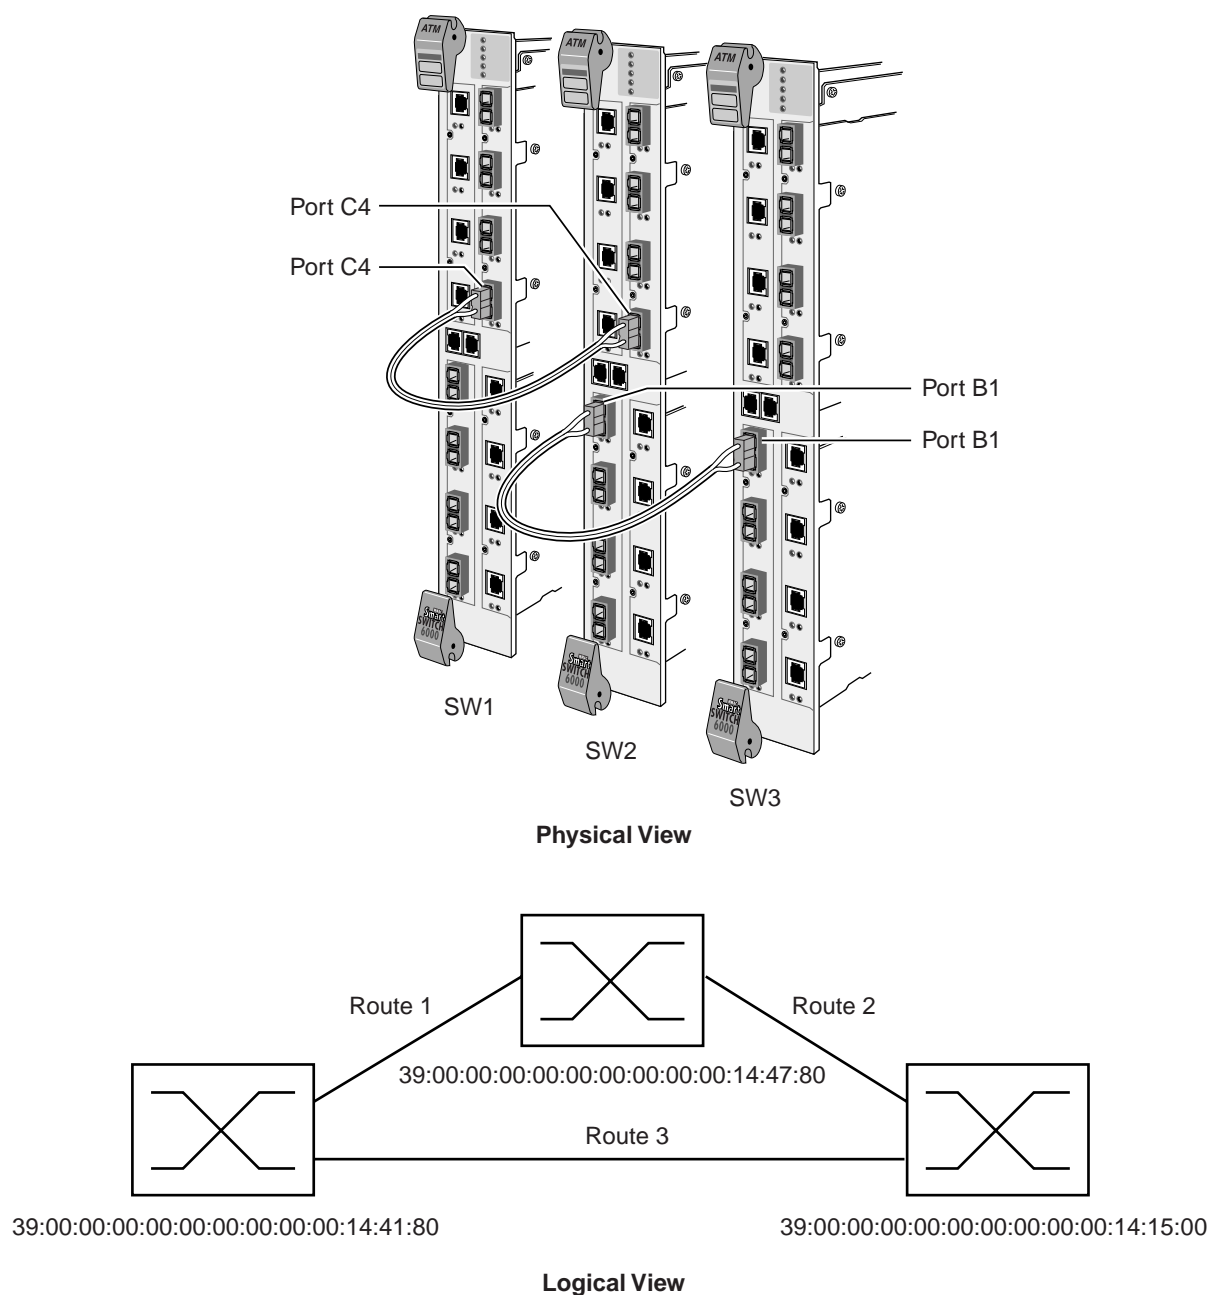

Figure 4-1 IISP routes between multiple switches
6. Connect a cable between port B1 of SW2 and port B1 of SW3; then add an IISP route between B1 of SW2 and B1 of SW3 (see Figure 4-1).